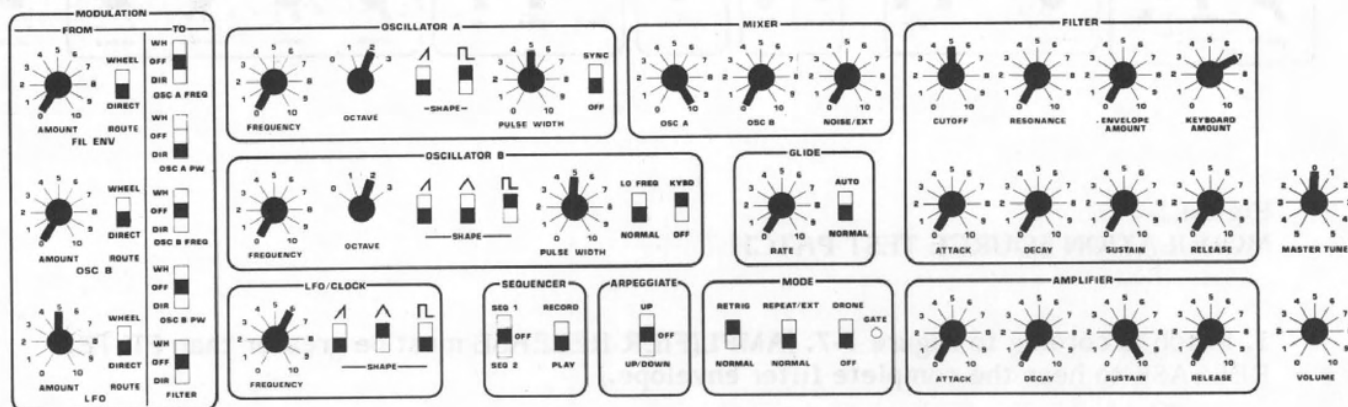

Figure 1-8
8. Now that the modulation sources have been checked with OSC FREQ A, the four remaining destinations can be tested. Patch according to Figure 1-8.